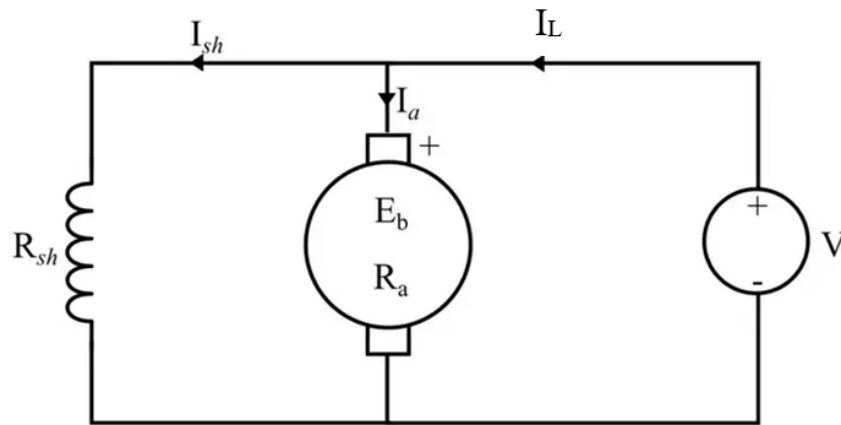

Figure B3(c) / Rajah B3(c)
- (c) A D.C. shunt motor circuit diagram is shown in Figure B3(c). The motor has an efficiency of 85%. It takes 30 A from a D.C. supply of 320 V. The resistances of the armature and shunt field are $0.4\ \Omega$ and $160\ \Omega$ respectively. Calculate the total copper losses of the motor.